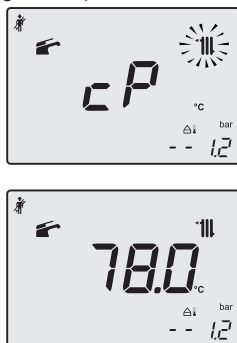

Fig. 10.26
- Press key 19 to vary the output in chimney sweep mode: when the LCD display displays the letters **cP** that alternate with the heating water temperature value (e.g. **78**), the "flue sweep function" is at maximum output in heating mode (Fig. 10.26).